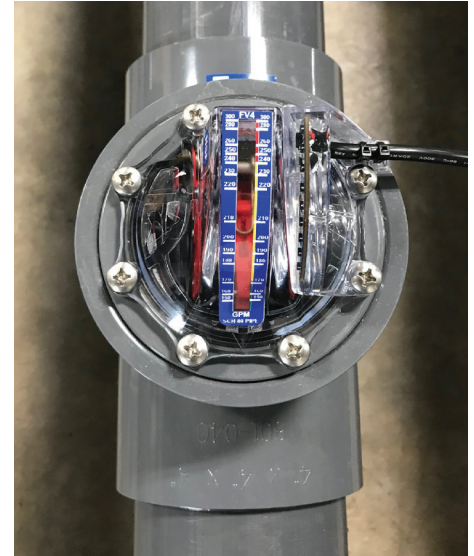

Fig 2.5
6. Referring to Fig.2.5 (right), identify the required side of the FlowVis to mount the FlowVis sensor, ensuring that the sensor is fully seated and the screw holes line-up with those on the FlowVis lid assembly.
2. Unless previously done in section 7.2, remove the two FlowVis lid screws that will align with the hole mounting tabs for the sensor (refer to Fig.2.5 on pg. 7).
3. Mount the sensor, ensuring that it is fully seated and the screw holes line-up with those on the FlowVis lid assembly (see Fig.2.5).